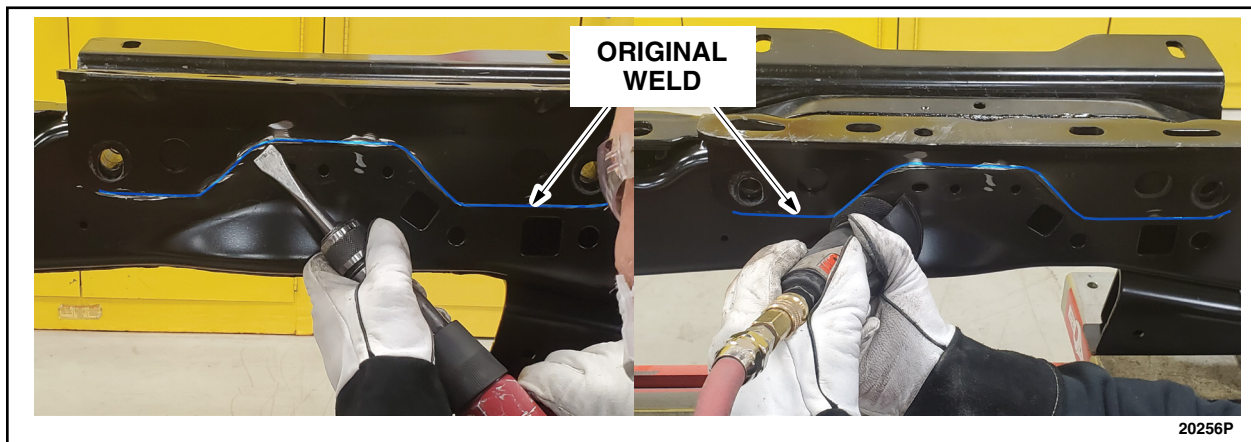

FIGURE 22
29. Grind through the original welded joint retaining the LH fifth wheel hitch inner bracket to the frame rail. Using a chisel gun with a sharp 1" wide wedge chisel, separate the ground area of the joints. See Figure 22.